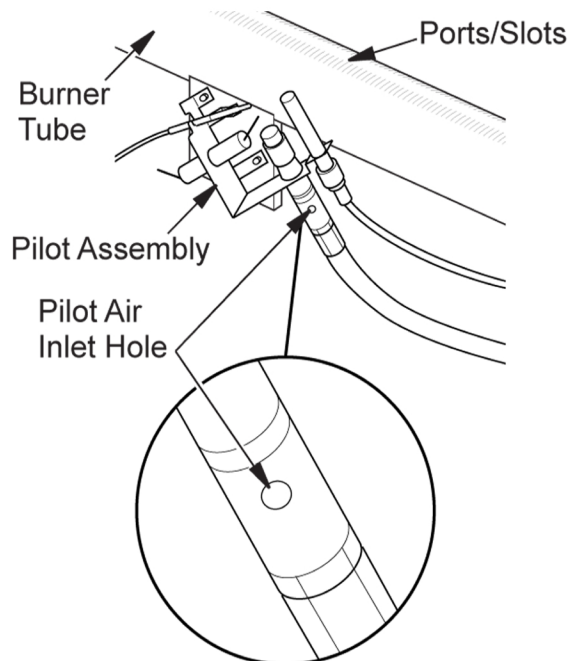

Figure 27 - Pilot Inlet Air Hole
2. Inspect burner, burner primary air holes on injector holder and pilot primary air inlets for dust and dirt (see Fig.27).